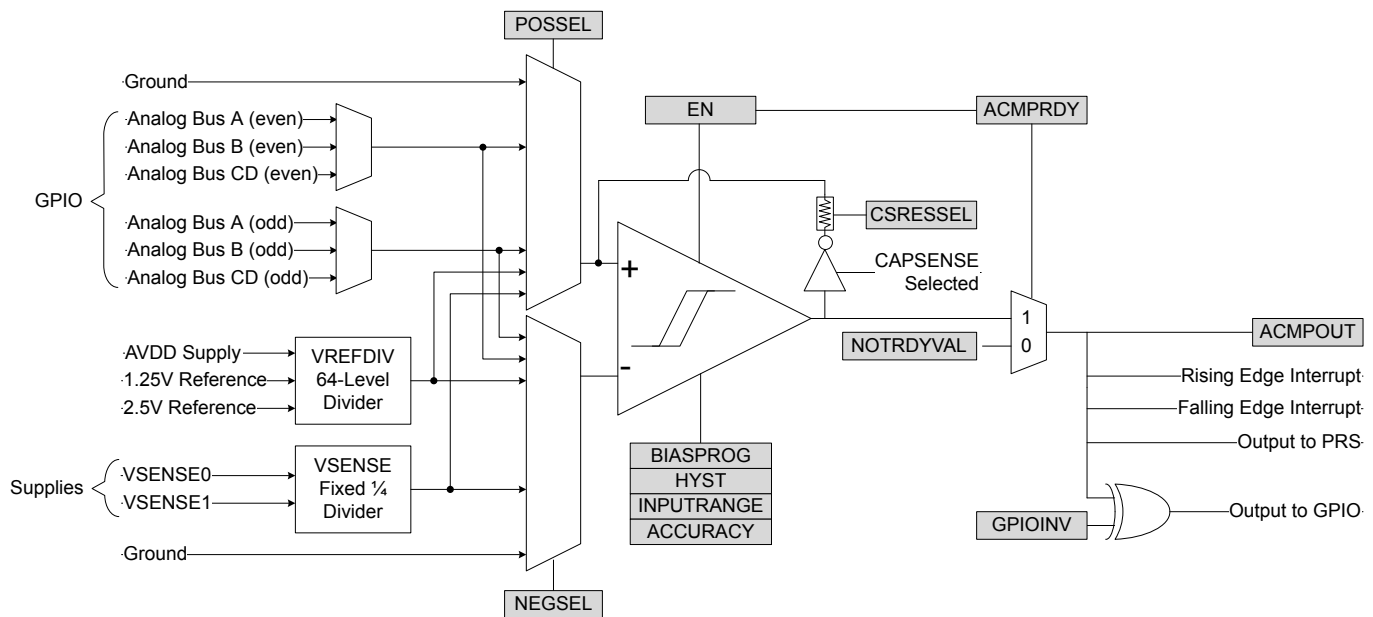

Figure 22.1. ACMP Overview
An overview of the ACMP is shown in Figure 22.1 ACMP Overview on page 604.
The ACMP can be used to monitor supply voltages. This is done by selecting VSENSE01DIV4(LP) or VSENSE11DIV4(LP) for either POSSEL or NEGSEL. Note that the input to the comparator core will be divided by 4, as illustrated in Figure 22.1 ACMP Overview on page 604. To reduce energy consumption, a sample/hold circuit can be used to periodically sample the power supplies. To enable this, select VSENSE01DIV4LP or VSENSE11DIV4LP in POSSEL / NEGSEL. Because the sample/hold feature uses the comparator in a non-continuous fashion, enabling this will increase response times and reduce the accuracy of the comparator. The connections between VSENSE0 and VSENSE1 to power supplies are summarized in Table 22.2 VSENSE connections on page 606.